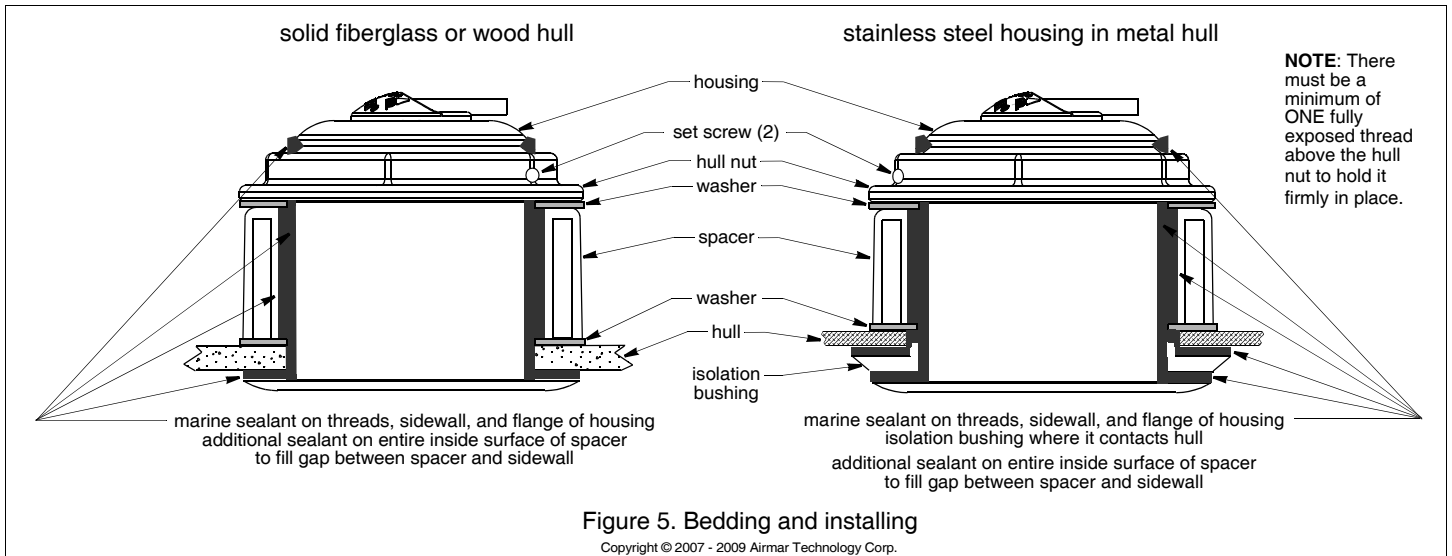
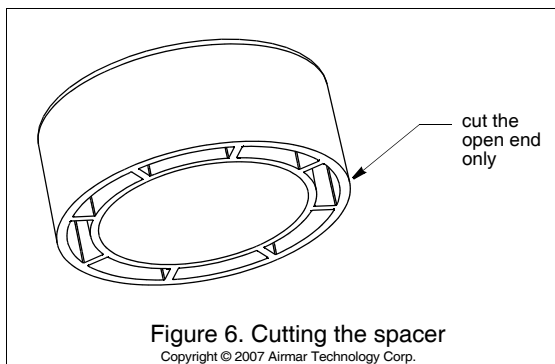

Figure 5. Bedding and installing
Figure 6. Cutting the spacer
4. Dry fit the transducer to determine if the spacer must be cut. From outside the hull, push the housing through the mounting hole (see Figure 5). From inside, slide one of the washers onto the housing. Slide the spacer onto the housing with the open end facing the hull. Add the remaining washer. *Be sure a minimum of **THREE** threads are showing on the housing above the washer.* If not, cut the spacer to make it shorter. When cutting the spacer, *be sure to cut the open end* (see Figure 6).
1. Apply a 4mm (1/8") thick layer of marine sealant to the flange, sidewall, and threads of the housing (see Figure 5). The sealant must extend 12mm (1/2") higher than the combined thickness of the hull, spacer, and hull nut. This will ensure there is marine sealant in the threads to seal the hull and to hold the hull nut securely in place.
2. Slide one of the washers onto the housing (see Figure 5). Slide the spacer onto the housing until the open end rests against the washer. Add the remaining washer. **Be sure a minimum of THREE threads are showing on the housing above the washer.** If not, make the spacer shorter by cutting the *open end* (see Figure 6).